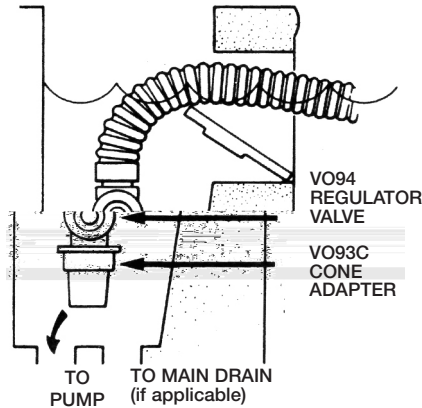

Figure 4
Check the water flow reading on the Flow Gauge. (Refer to Step 4, Figure 2). The black disk should be in the box between the "MIN" and "MAX" markings. If the setting is higher than required with the black disk outside of the box on the "MAX" side and you have connected your hose to the skimmer, it will be necessary to reduce the vacuum/water flow by using a valve or valves in the filter system, or the Hayward V094 Regulator Valve or an optional Hayward Automatic Skimmer Vacuum Plate designed to adjust vacuum/water flow. To install the V094 Regulator Valve, turn the filter system off. Remove the hose from the V093C Skimmer Cone, and after closing the Regulator Valve (Rotate the blue collar clockwise/toward + until closed/tight), insert the Regulator Valve into the Skimmer Cone, and insert the hose end into the Regulator Valve (see Figure 4).
Some skimmers have two (2) holes in the bottom. There might be a valve, float or cover over the holes. Remove everything in the skimmer, exposing the holes. The rear hole is usually the suction port. In some cases it will be necessary to use the V094 Regulator Valve to control water flow through the Pool Vac Ultra (*see Figure 4*).